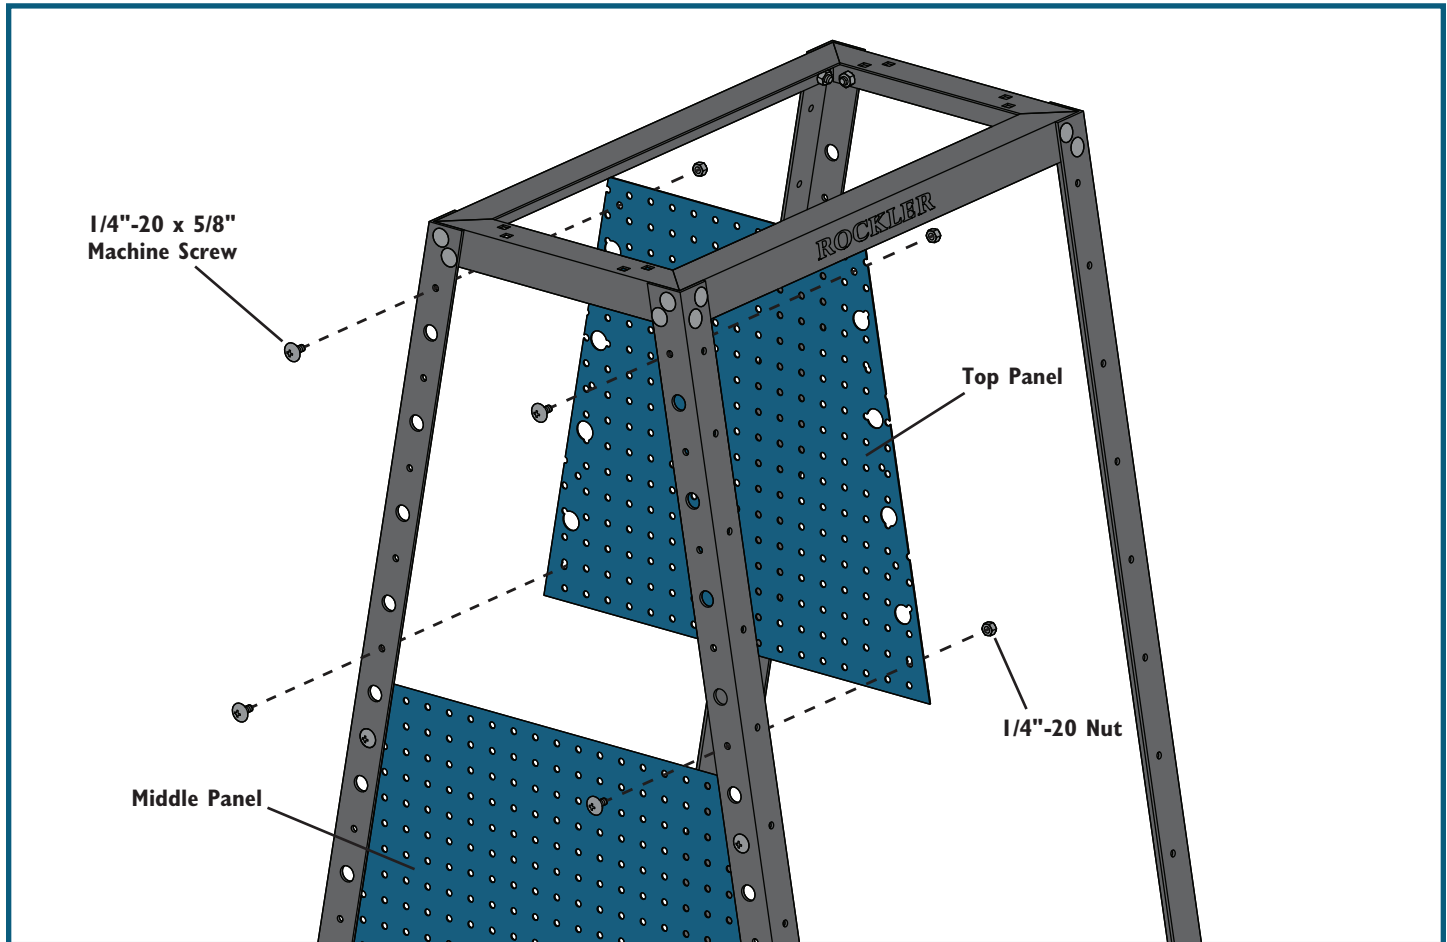

Fig. 1
2. Holding the panel in place, attach it to the Pack Rack® by inserting four 1/4"-20 x 5/8" Machine Screws in the mounting holes in the legs of the Pack Rack® and through the panel. Then thread on and tighten a 1/4"-20 Nut on each screw. **Fig. 1.**